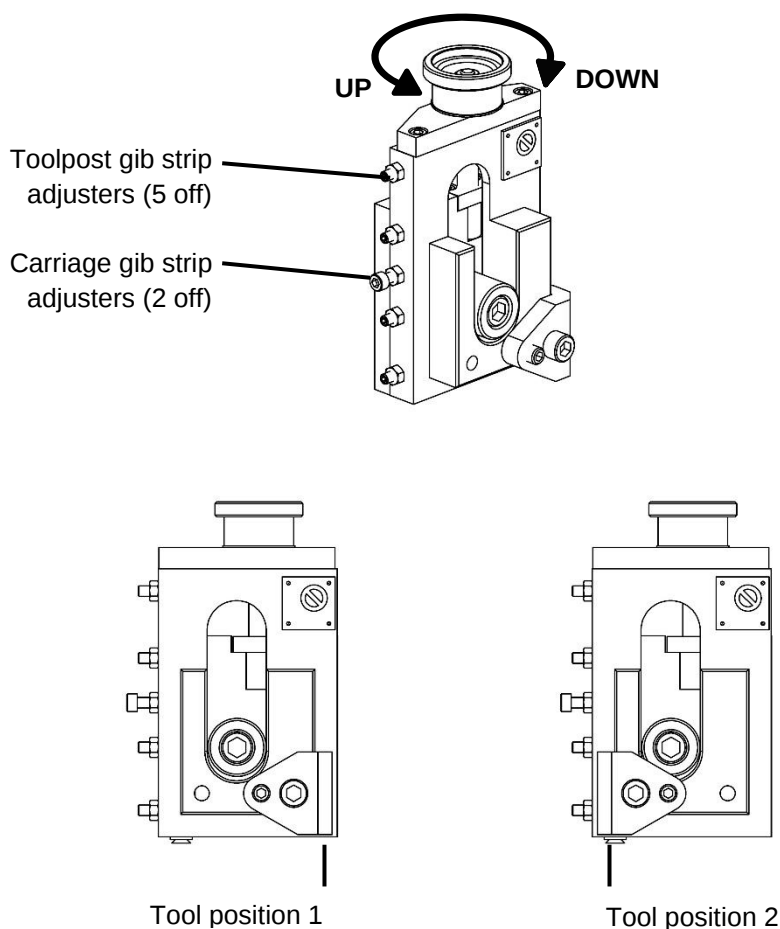

Fig. 23 Tool positions and toolpost movement
2. Using the standard toolpost (see Fig. 23) select the appropriate tool for the job (see Appendix A).